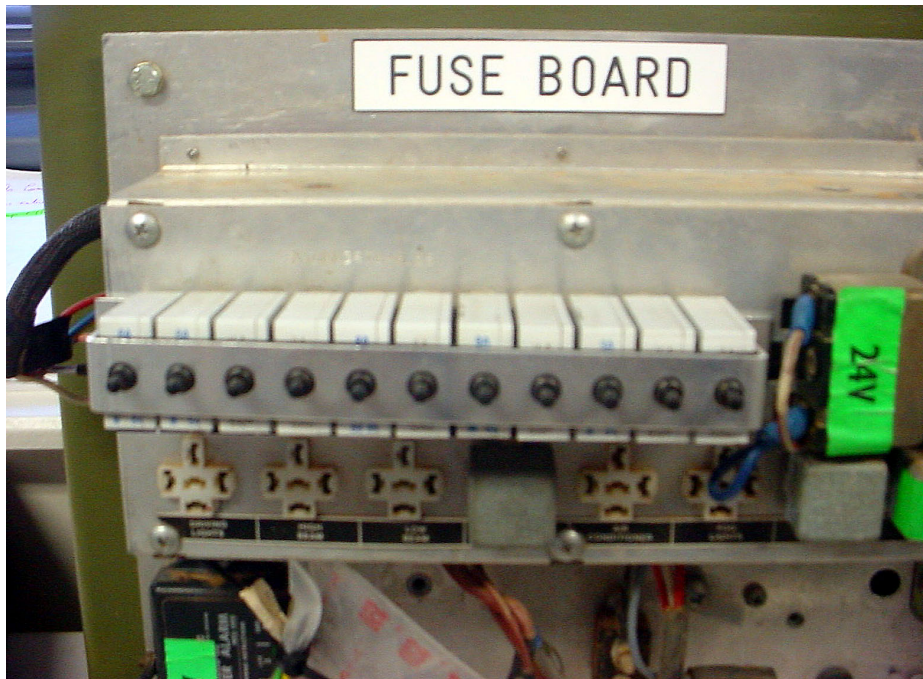

Figure 2 – Completed Circuit Breaker Modification
g. Figure 2 shows the completed modification.